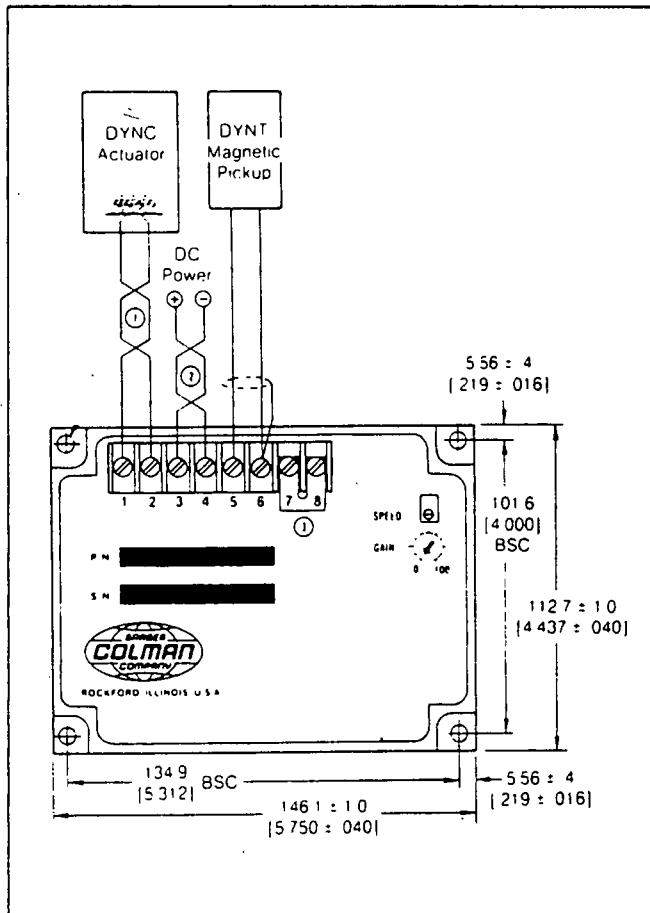
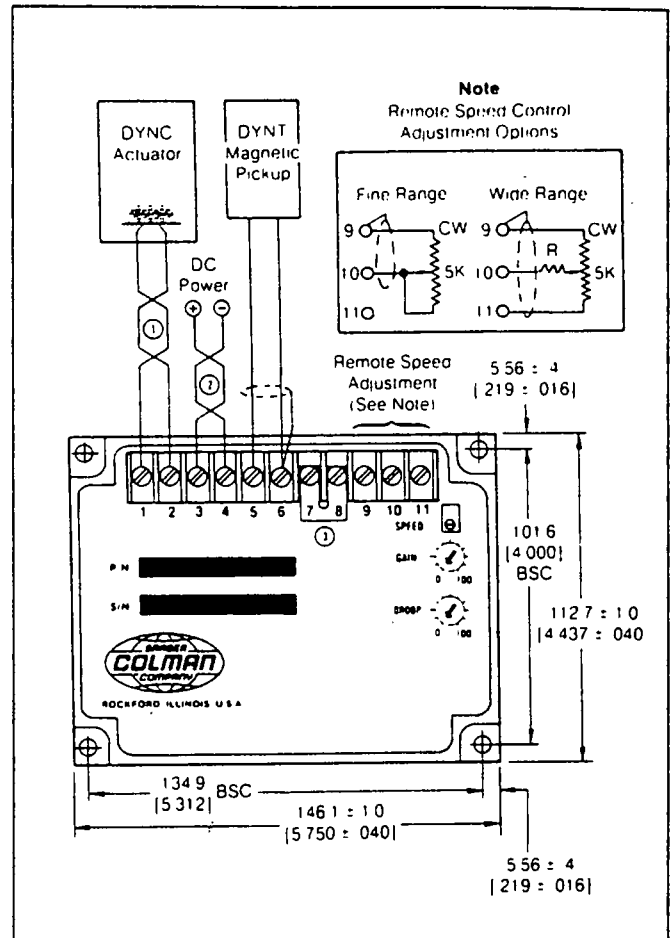

Figure 4. Typical System Without Droop Adjustment
Figure 5. System with Droop Adjustment
NOTE: Droop operation is not available on systems equipped with the controller shown in Figure 4 (no droop adjustment). The controller shown in Figure 5, however, will provide droop operation.
A. See Figure 4. Prior to starting the engine, complete the following adjustments:
A. See Figure 5. Prior to starting the engine, set the controller potentiometers as follows: